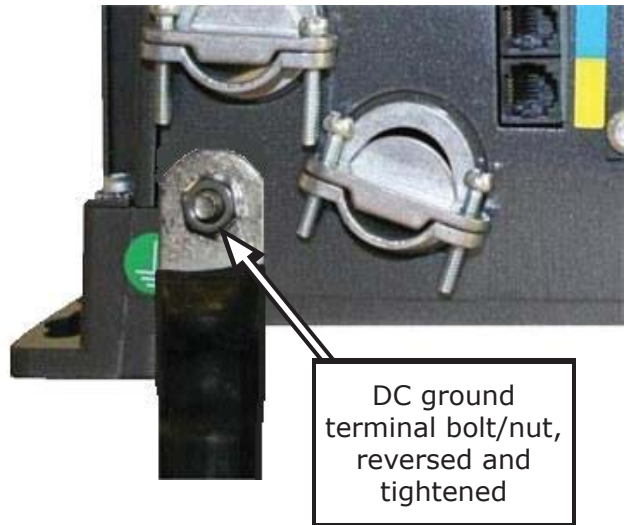

Figure 2-18, Connecting a Large DC Ground Wire
DC Side – Since the currents on the DC side are higher than the AC side (10 times at 12 volts, 5 times at 24 volts), the equipment grounding needs are different. The DC equipment grounding conductor is sized per Table 2-5, and connected to the DC equipment grounding terminal on the inverter as shown in Figure 2-18.
4. Reverse the removed bolt, and place it back in the chassis hole to attach a correctly sized ground cable with a ring terminal to the ME Series chassis, as shown in Figure 2-18.